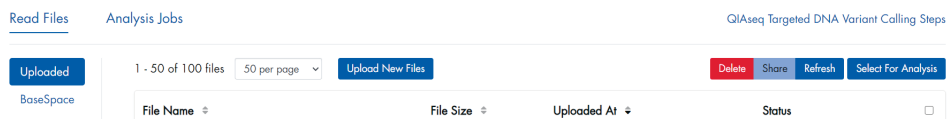

Figure 10. File Upload tab of the QIAseq Targeted DNA Panel Data Analysis Pipeline.
4. In the **Read Files** tab, select **Uploaded** > **Upload New Files** to upload files from your local drive (Figure 10).